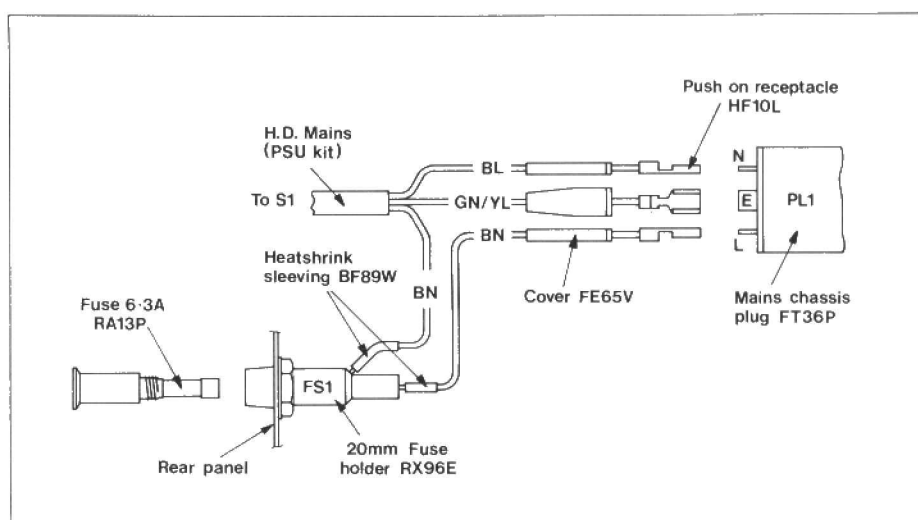
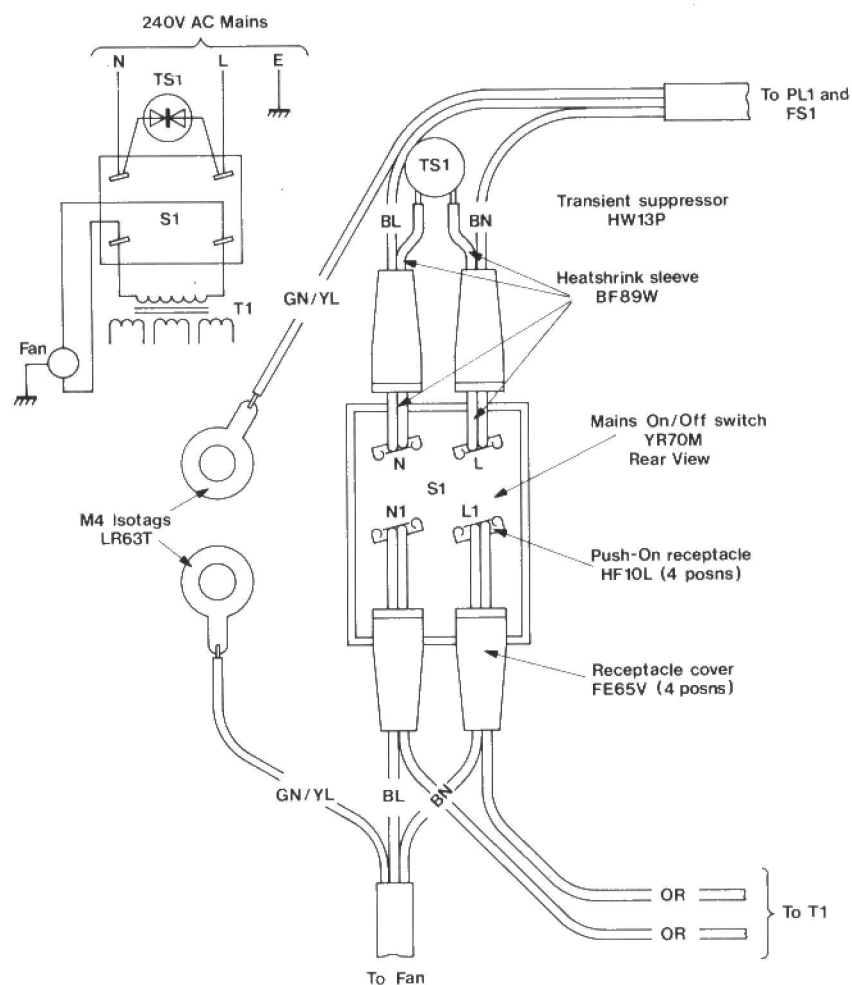

Figure 9. Wiring FS1 and PL1.
Figure 10. Wiring S1.
Mains wiring from the input connector PL1 to switch S1 is detailed in Figures 9 and 10. Push on receptacles are used for terminating these wiring connections and insulated covers are fitted for reasons of safety. In Figure 10, the Live (BN) and Neutral (BL) wires from FS1/PL1 are terminated at S1 with a transient suppressor (TS1) connected between them. The suppressor wires are insulated with suitable lengths of heat shrink sleeving and inserted, with the mains wire, into each cover and then receptacles are fitted. Both orange primary wires from T1 and miniature mains fan wires are terminated in a similar fashion.
Approximately 120mm of the green/yellow earth wire from both cables, is used for connecting to the case chassis earthing point, which is at the left hand side handle screw above S1 (see Figures 1 and 2). Solder an M4 isotag to each earth wire (Figure 10), remove the allen screw nut and washer, fit both earth tags and replace the washer and nut. An M4 isotag is also